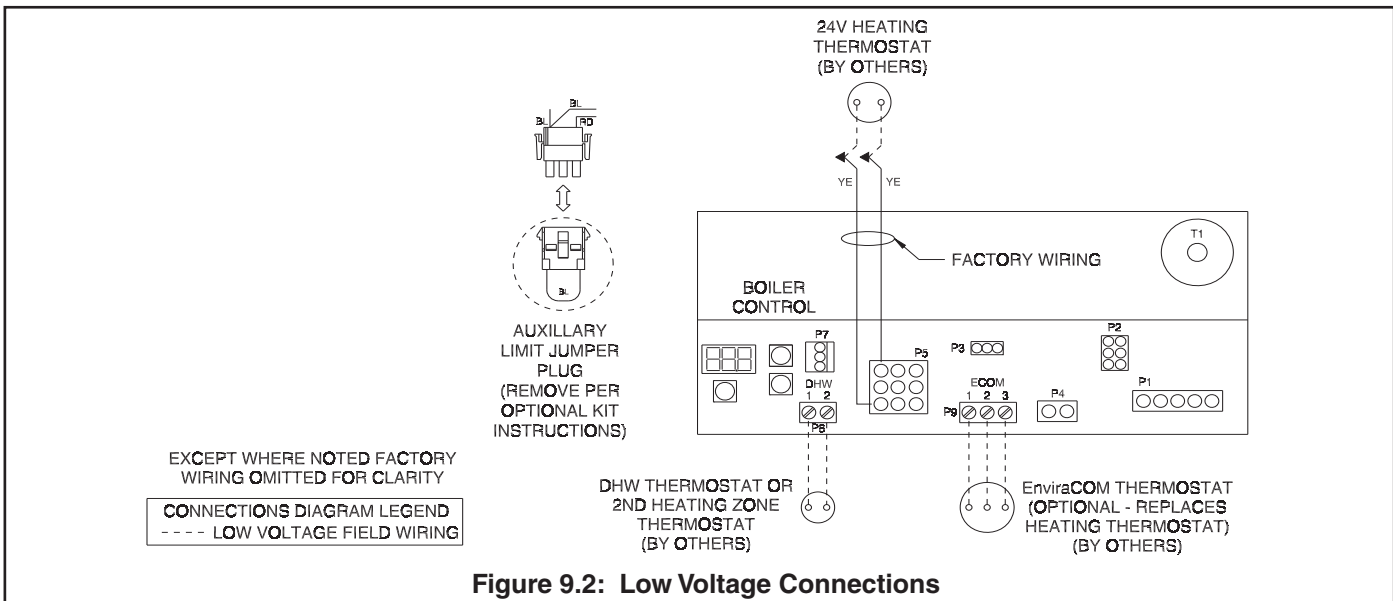

Figure 9.2: Low Voltage Connections
- Wire additional field supplied safety limits, such as low water cut-offs and temperature limit devices, so as to break the 120V power supply to the boiler. Alternatively, some 24V safety limits can be wired in place of the limit jumper shown in Figure 9.2. Do not alter the boiler's factory wiring when adding a field supplied limit device.
**NOTICE:** This boiler is equipped with a listed high water temperature limit function. This limit provides boiler shutdown in the event the boiler water temperature exceeds the set point of the limit control. Certain Local Codes require an additional water temperature limit. If necessary, install an additional water temperature limit (P/N 106056-01) or equivalent Honeywell L4006 Aquastat. Wire as indicated in Figure 9.2.
- a. Heating Circulator - Pumps water upon a call for heat (CH) from a heating thermostat connected to the leads shown in Figure 9.2 or from an EnviraCom thermostat.
- b. DHW Circulator - Pumps boiler water to an indirect water heater upon a call for domestic hot water (DHW) from the DHW thermostat terminals shown in Figure 9.2. This output can also be used for a second space heating zone (See Section 11 for additional information).
2. Low Voltage Connections – Low voltage field connections are located as shown in Figure 9.2 and are as follows:
- a. Heating (CH) Thermostat - Connect to a 24 volt thermostat or other “dry contacts” (such as a zone panel end switch) that close upon a call for heat. Follow thermostat manufacturer's instructions. To insure proper thermostat operation, avoid installation in areas of poor air circulation, hot spots (near any heat source or in direct sunlight), cold spots (outside walls, walls adjacent to unheated areas, locations subject to drafts). Provide Class II circuit between thermostat (or zone controls) and boiler.
- c. Auxiliary Limit Jumper - Used to connect auxiliary limit device. If no such devices are installed, the factory supplied jumper shown in Figures 9.2 and 9.3 must be installed for boiler to operate.